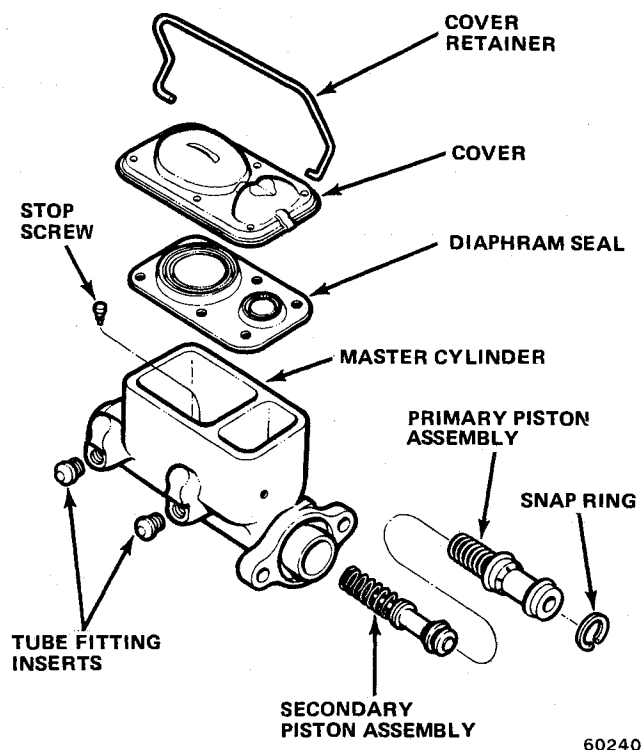

Fig. 2G-10 Master Cylinder
(1) Install replacement tube seats (if removed) using spare tube fitting nuts to press seats into place. Do not allow seats to become cocked during installation. Be sure seats are bottomed. Remove tube fitting nuts and check for burrs or chips. Remove burrs or chips. Rinse master cylinder in brake cleaning solvent and blow out all passages with compressed air.
(2) Install piston cups on secondary piston. Piston cup installed in groove at end of piston should have lip facing away from piston. Install next cup so lip faces piston (fig. 2G-9 and 2G-10).